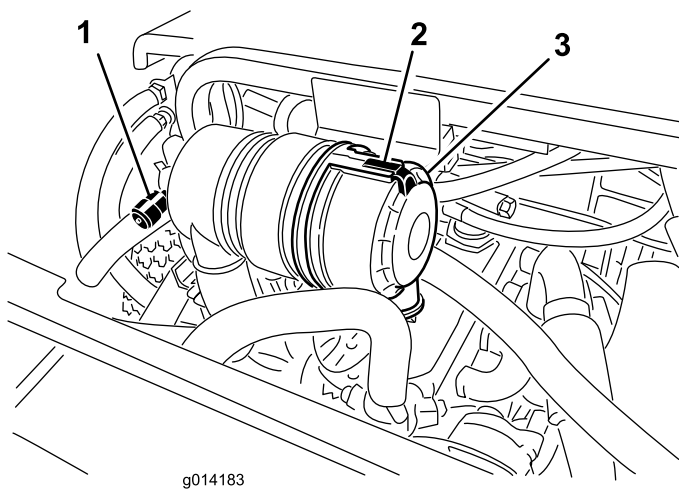

Figure 30
Service the air cleaner filter only when the service indicator (Figure 30) requires it. Changing the air filter before it is necessary only increases the chance of dirt entering the engine when the filter is removed.
1. Release the latch securing the air cleaner cover to the air cleaner body (Figure 30).